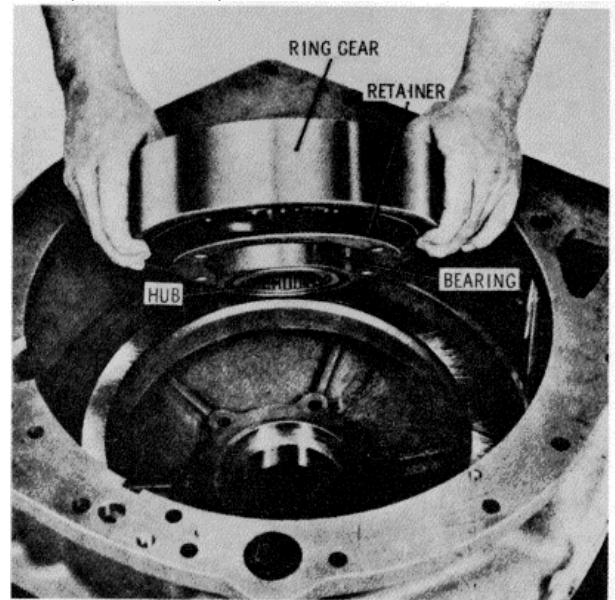

Figure 15-86. Removing Splitter Ring Gear and Attached Parts
6. Remove, as a unit, the splitter ring gear, hub, bearing, and bearing retainer (Figure 15-86). Remove snap ring 14 (A, Foldout 8) to separate ring gear 11 from hub 13. Remove retainer 27 (B, Foldout 8), and bearing 26 from hub 13 (A, Foldout 8).